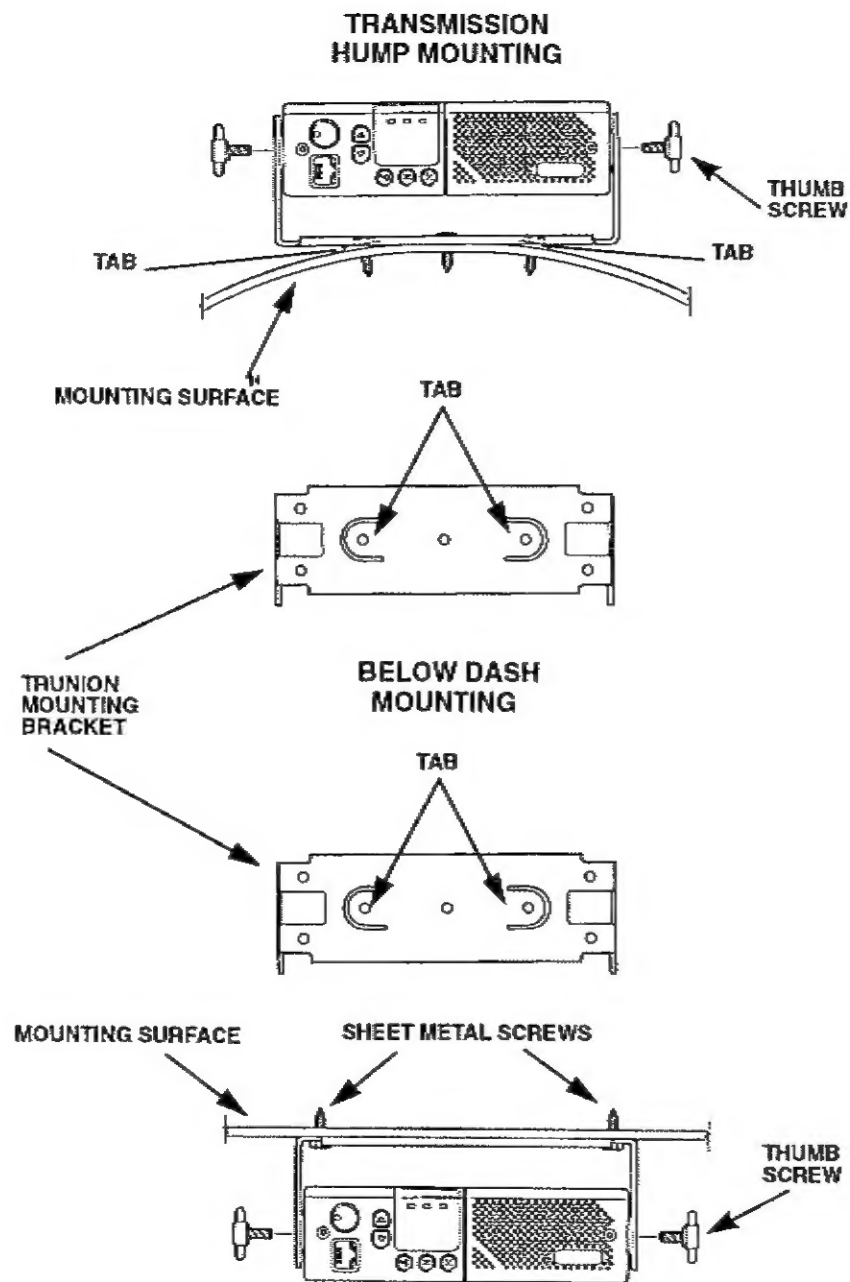

Figure 4. Trunion Mount for Radio
(See Figure 4)
1. Select the location to mount your radio either on the **Transmission Hump** or **Under the Dash** (see Figure 4).